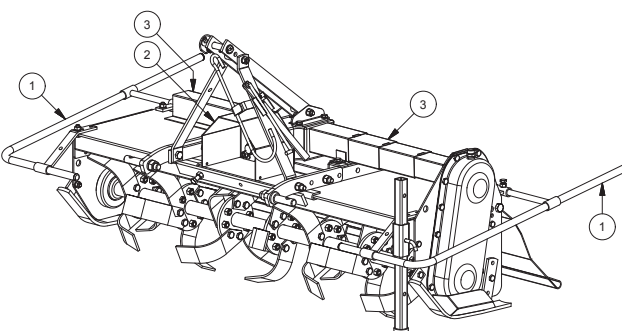

FIG. 12
- PTO guard tractor side (2, "Fig. 12").
- Protective tubes against access to the hoes area (1, "Fig. 12").
- Driveshaft Protections (3, "Fig. 12")